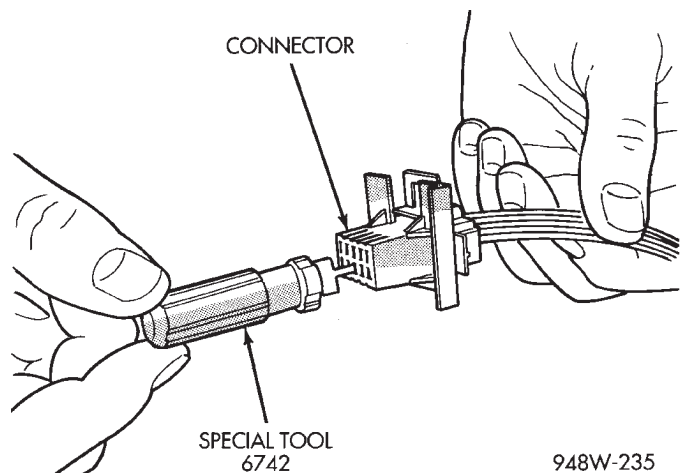

Fig. 13 Using Special Tool 6742
- (4) Using special tool 6742, release the locking fingers on the terminal (Fig. 13).
- (5) Pull on the wire to remove it from the connector.
- (6) Repair or replace the connector or terminal as necessary.